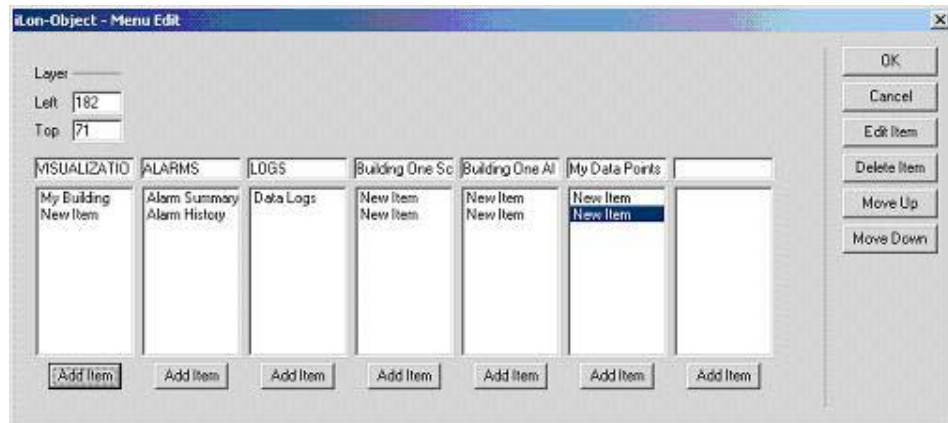

Figure 13.56 Menu Edit Dialog – New Menu Options
2. Add the options you want to appear in each menu by clicking the **Add Item** button below the applicable menu heading. Each time you click **Add Item**, a **New Item** entry will be added to the menu. In Figure 13.56 below, three items have been added to the menu headings created in step 1, and one item has been added to the visualization menu.